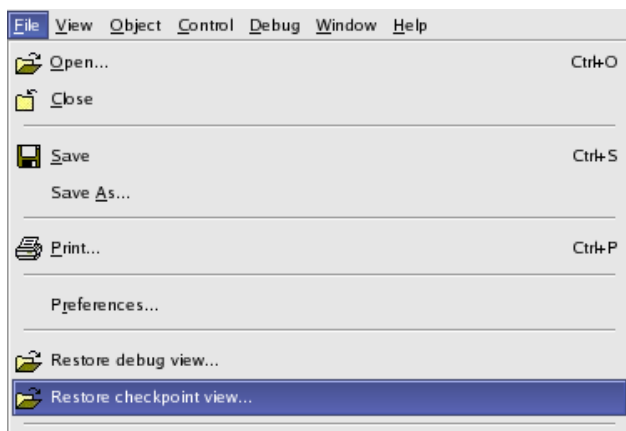

Figure 4-17 Restore Checkpoint View menu selection
2. Before starting the simulation, select **File > Restore checkpoint view** (Figure 4-17).